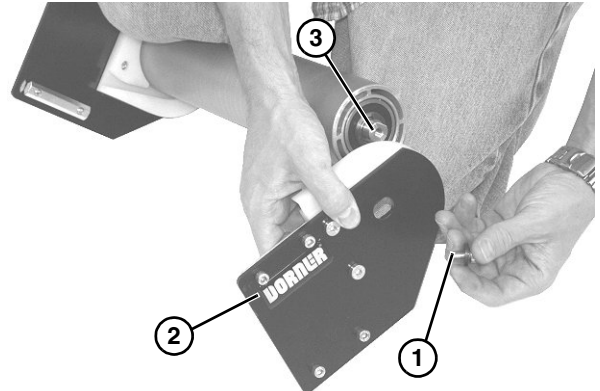

Figure 42
4. Remove socket head screw (**Figure 42, item 1**) from plate (**Figure 42, item 2**) and center of spindle shaft (**Figure 42, item 3**). Repeat procedure on opposite side.